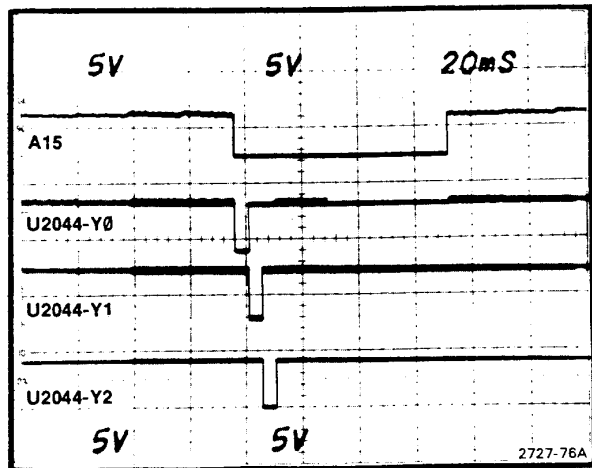

Fig. 4-26. A15 and Y0 through Y2 of address decoder U2044.
**Processor Address Decoders.** Address decoder U2044 on the Processor board sets its outputs low in turn to access block of memory space. See Fig. 4-26, where the Y0 through Y2 outputs are compared to A15. The other outputs follow in sequence with similar pulse widths. The self-test indicators connected to the decoder outputs blink in sequence as the microcomputer cycles through its address space.